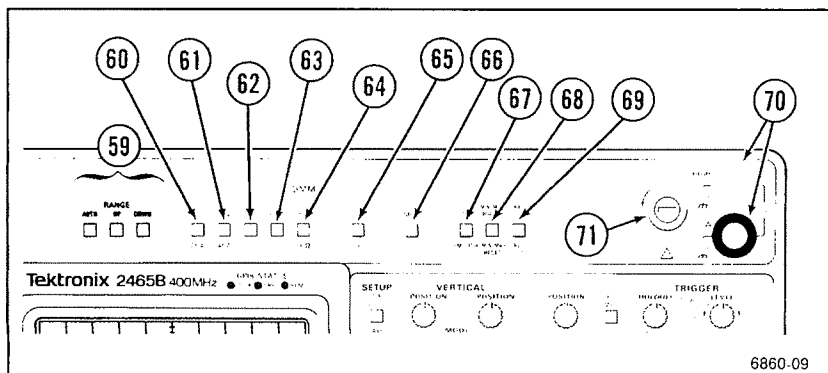

Figure 5-8. DMM controls and connectors.
All DMM controls are momentary push buttons. The buttons alternately select and deselect functions. Refer to Figure 5-8 for the location of items 59 through 71.